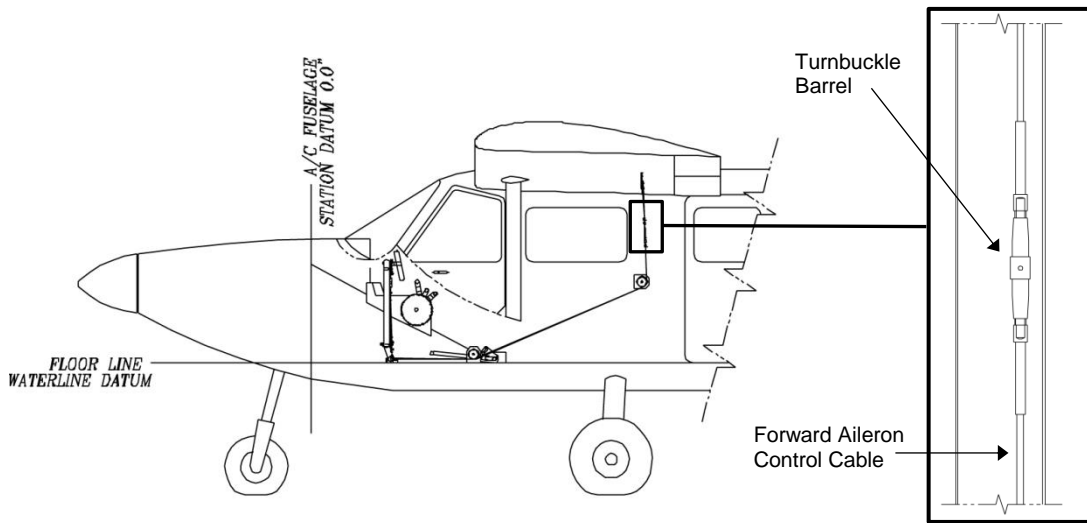

Figure 22: Aileron cable disconnect location
- 1) Carefully disconnect the forward aileron control cables (GA8-271011-011) from the turnbuckle barrel in the wall structure. Pull cable through the conduit and forward of Floor Rib # 5 (See Figure 22).